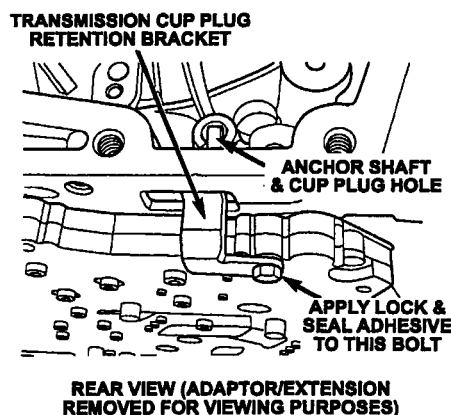

Figure 8
6. Position the retention bracket into the rear drain slot. Make sure the tab of the bracket is centered in the cup plug or cup plug hole (Figure 8).